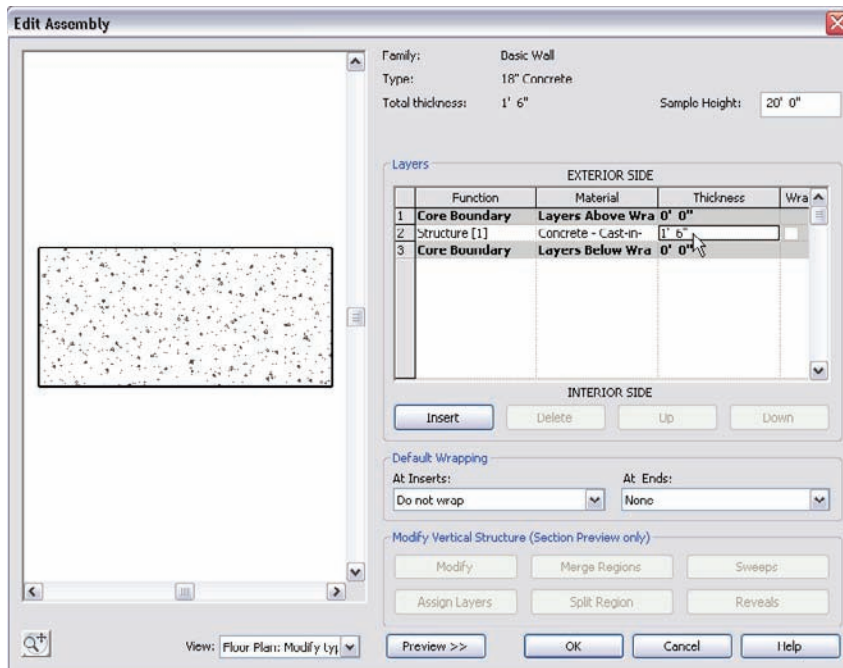

FIGURE 8.49 Changing the Material and Thickness settings
15. Change the Thickness to 1'-6" (450mm), as shown in Figure 8.49.